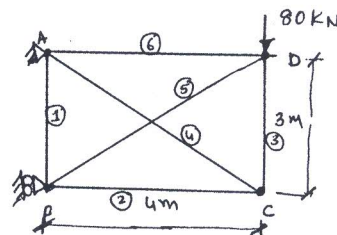

Fig.Q4
- 4 Find forces in members of truss shown in Fig.Q4, by flexibility method. Use force transformation approach. (20 Marks)